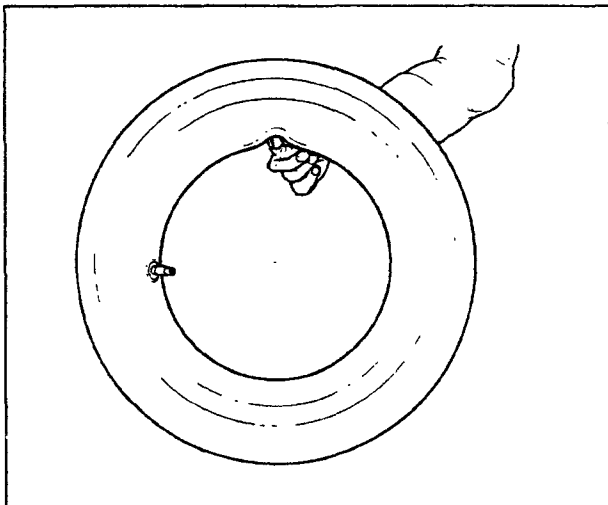

Fig.21
C. Inflate the tube slightly: if held with the indexfinger it should bend a little (Fig.21).